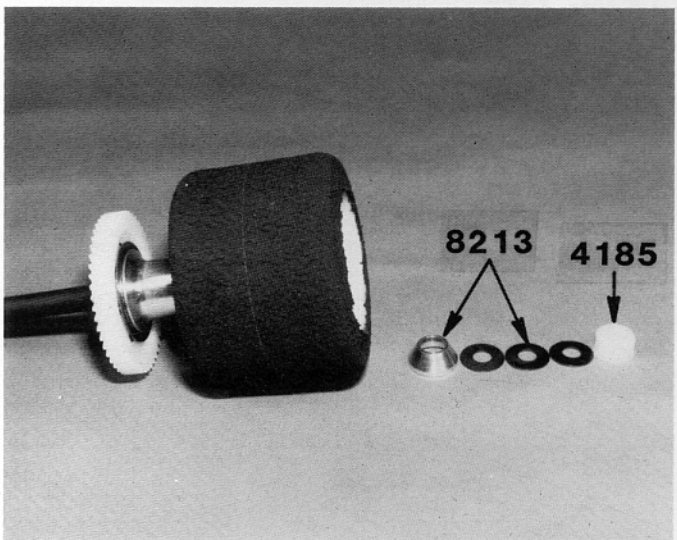

**Fig. 65**
□ **Fig. 65**—Push another #897 ball bearing into the RIGHT HAND ONLY rear wheel, as shown.